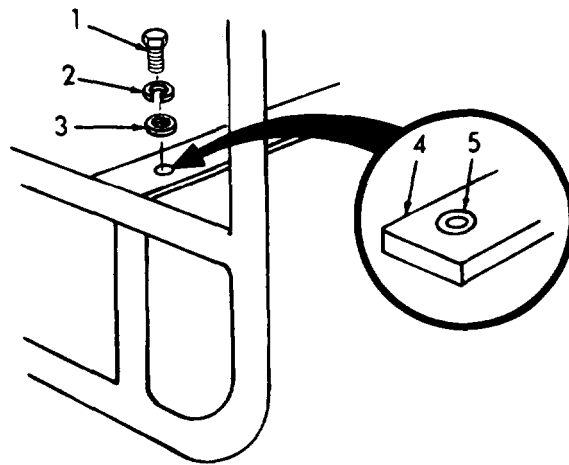

Figure 4-5. Channel removal.
- (1) Remove exhaust system as per 4-3.
- (2) Remove fuel tank and line as per 4-2.1.
- (3) Remove centrifugal pump as per 4-4.2.
- (4) Remove engine as per 4-5.
- (5) Refer to figure 4-5. Remove capscrews (1), lock washers (2), and flat washers (3).
- (6) Remove channels (4) and shock mounts (5).
Refer to figure 4-5. Repeat the removal procedure in reverse sequence.